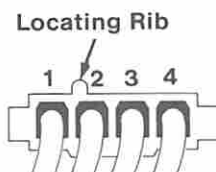

Figure 9. Diskette Drive A Power Connector
- Check the power connector at drive A for the voltages listed in Figure 9.